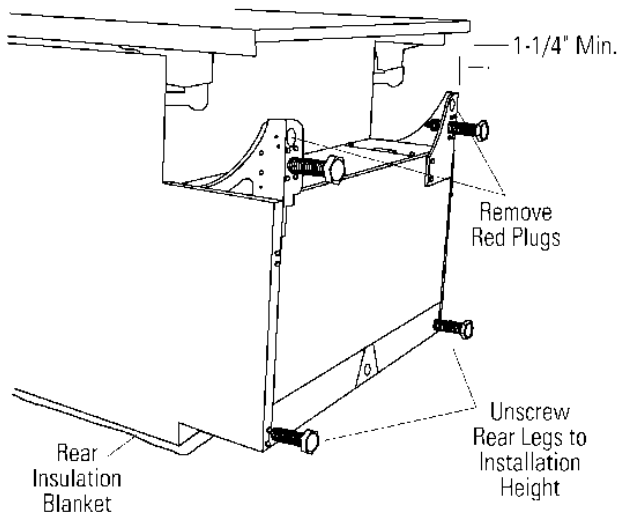

FIG 9
- 2 Install the leveling legs into the holes below the red plugs. Use the spanner wrench to screw the legs in until the overall height of the dishwasher is 1/4" less than the installation opening height. See Figure 9.